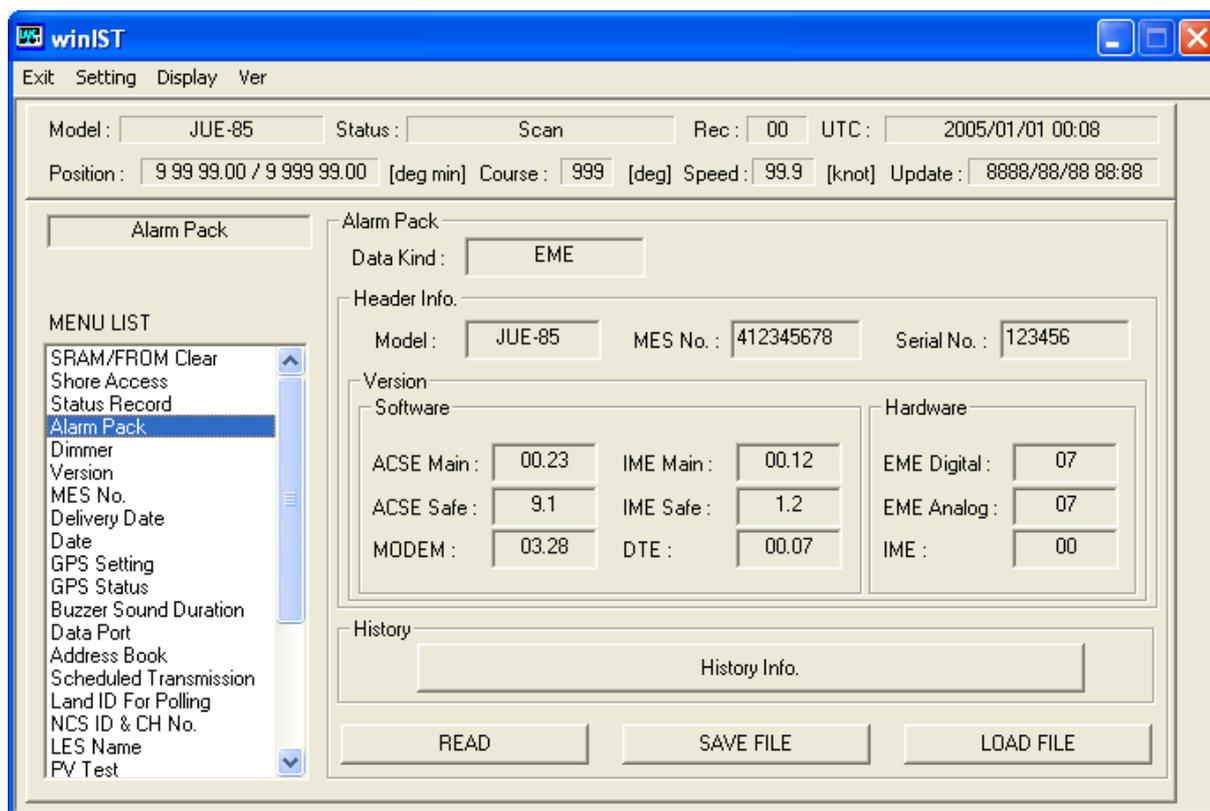

Fig 4-6-1e [Alarm Pack] data acquisition succeeded screen(JUE-85/95)
Step 5. Following screen is displayed when [History Info] button is clicked on the screen of Fig. 4-6-1e. Confirm the data